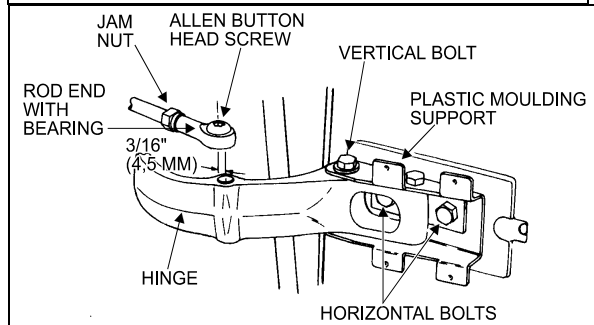

FIGURE 18: UPPER DOOR HINGE (COACH)
In figure 18, if there is an indentation (B) in the dust cap (C) and the cover shows two holes (A), the damper is fitted with a bump rubber (D). If so, fully extend the damper and insert a round bar or screwdriver through the holes. Push the bump rubber down and remove. Remove the split plastic collar (E) (if fitted) from the piston rod.